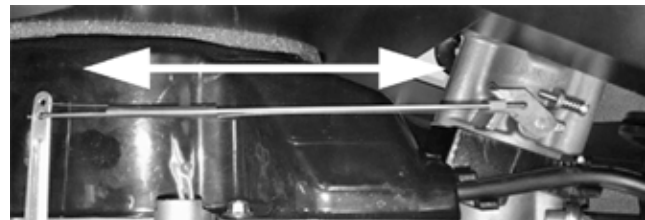

Figure 28.
- Ensure throttle rod and anti-lash spring are moving freely by cycling to full open and full closed throttle positions. (See Figure 28)